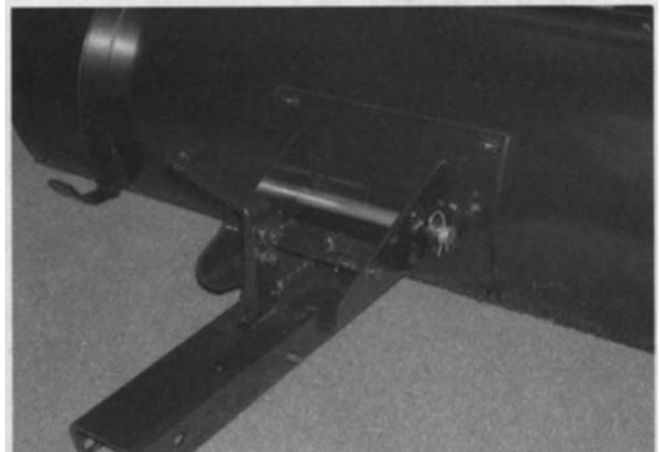

Figure 8-118.
4. Align the holes in the pivot plate with the holes in the welded brackets. Insert the pivot shaft through the holes and secure with hairpin clips. See Figure 8-118.